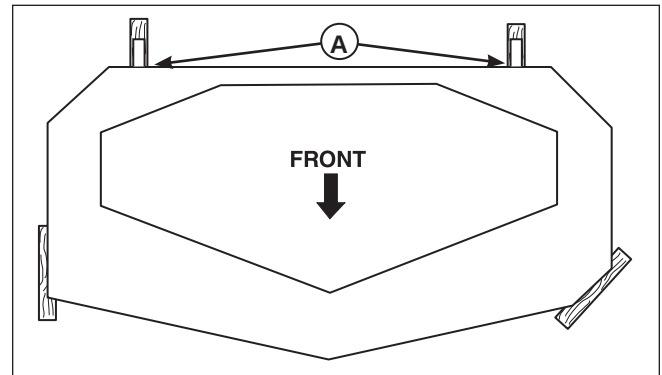

Figure 40. 2 x 4 Locations
6. Refer to Figure 40. Place 2 x 4 blocks under each corner of the mower deck with the 3-1/2" sides being vertical. Place a 1/4" (0,64 cm) thick spacer on top of the rear 2 x 4 blocks.